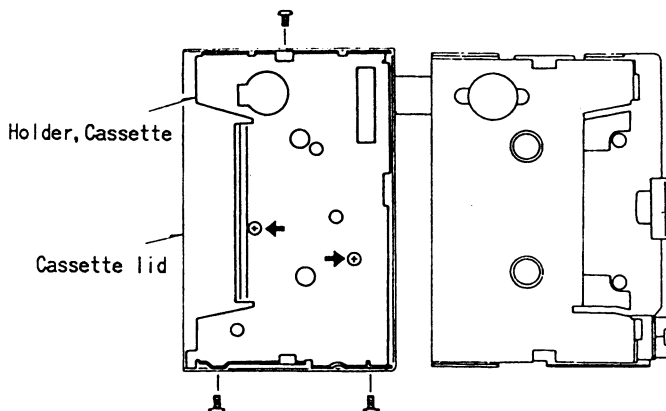

Fig. 4
- 1) Remove 5 screws. (See Fig. 4)